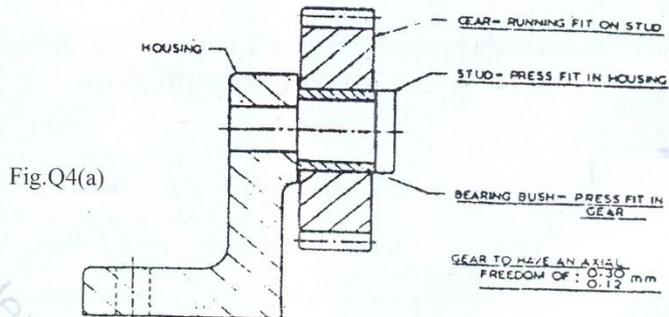

Fig.Q4(a)
- b. A location shaft shown in fig. Q4(b) is to be manufactured in batches of 100.